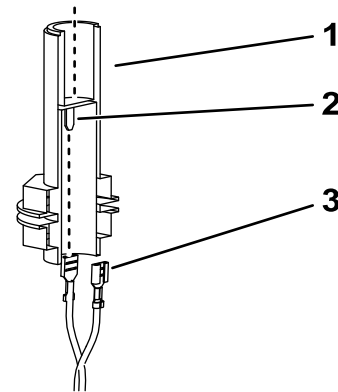

Figure 9
4. Connect the loose beacon harness connectors to the spades in the beacon socket (Figure 9).